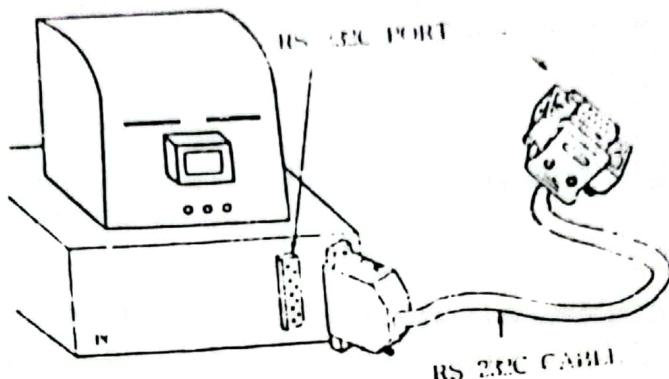

FIGURE 4-2. Connect to MDE-8086 and COMPUTER
- ② Connect MDE-8086 and RS-232C port of computer like follow Figure 4-2.